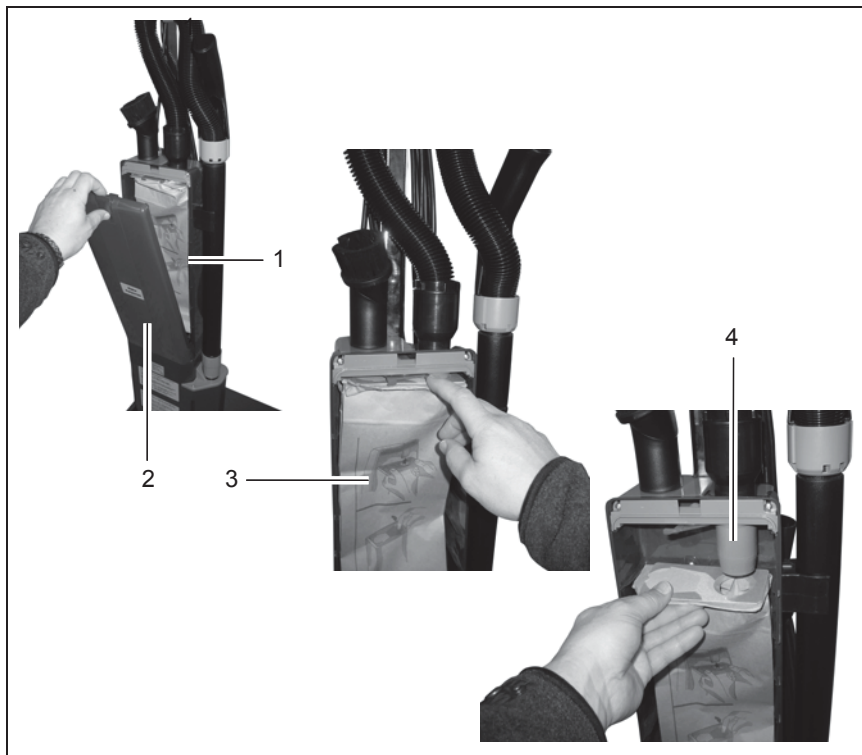

Fig. 7
1. Open and remove the cover (Fig. 7/2) in accordance with Fig. 7.
2. Pull the paper filter bag (Fig. 7/3) downwards from the nozzle (Fig. 7/4) and remove it from the filter compartment (Fig. 7/1).
3. Insert a new paper filter bag (Fig. 7/3).